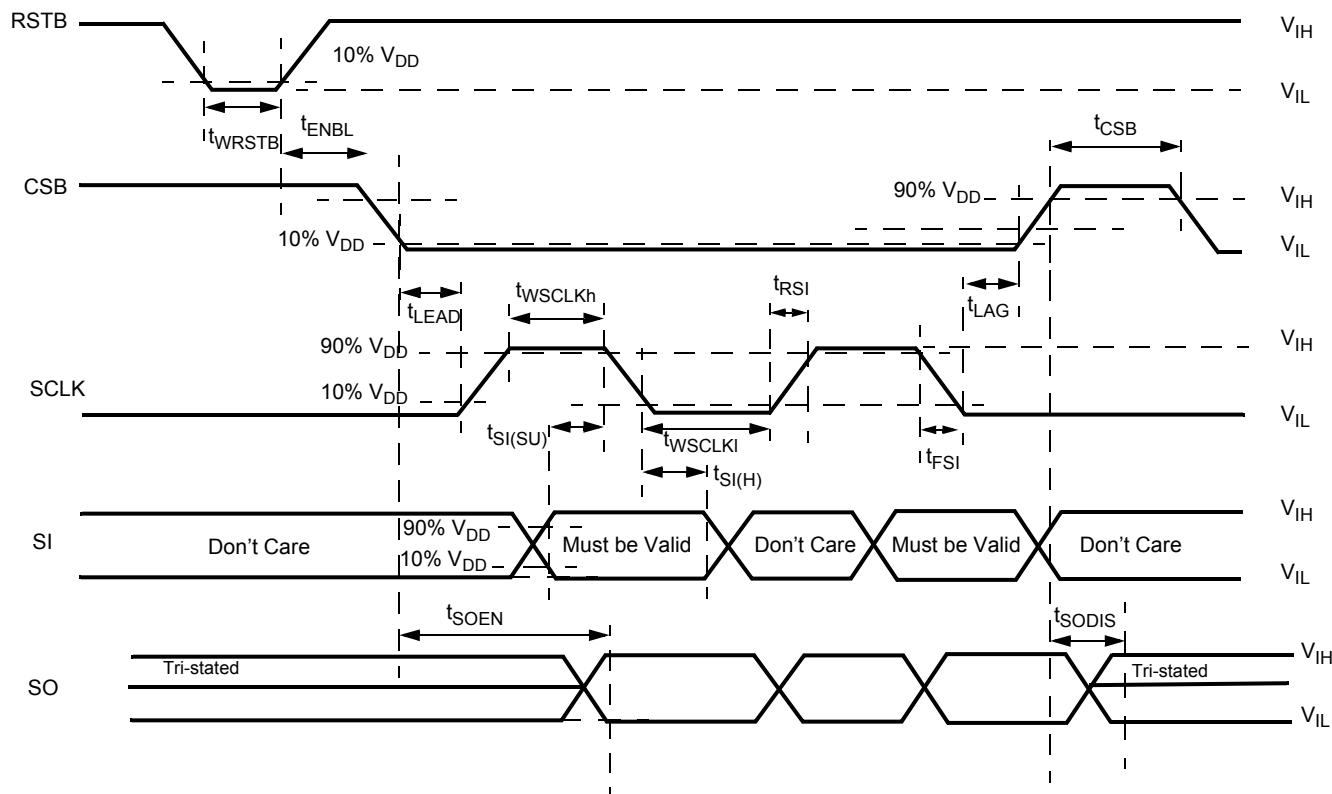
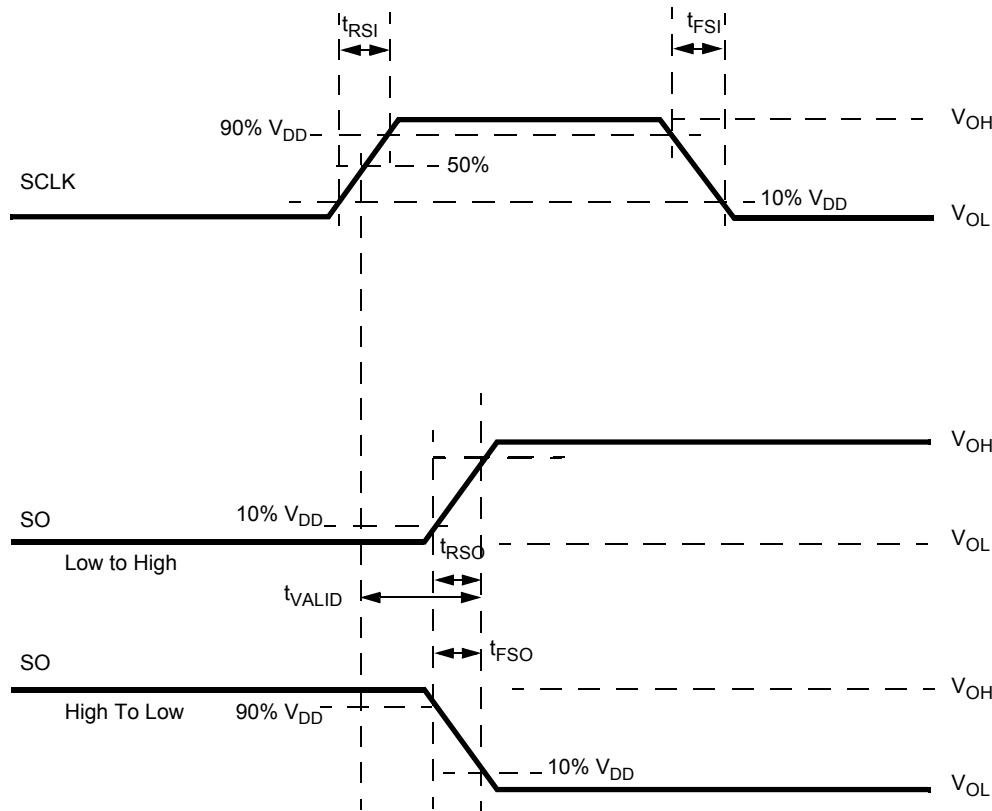

Figure 7. Timing Requirements During SPI Communication
Figure 8. Timing Diagram for Serial Output (SO) Data Communication
Data communication over the SPI port is enabled when the CSB pin is in the logic [0] state. Data from the Input Shift registers are locked in the addressed SI registers on the rising edge of CSB. The device transfers the contents of one of the eight internal registers to the SO register on the falling edge of CSB. The SO output driver is enabled when CSB is logic [0]. CSB should transition from a logic [1] to a logic [0] state only when SCLK is at logic [0] (Figure 7 and Figure 8). CSB is internally pulled up to  $V_{DD}$  through  $I_{UP}$ .
Serial input (SI) data bits are shifted in at this pin. SI data is read on the falling edge of SCLK. 16-bit data packages are required on the SI pin (see Figure 7), starting with bit D15 (MSB) and ending with D0 (LSB). All the internal device registers are addressed and controlled by a 4-bit address (D9-D12) described in Table 13. Register addresses and function attribution are described in Table 14. The SI pin is internally connected to a pull-down current source,  $I_{DWN}$ .